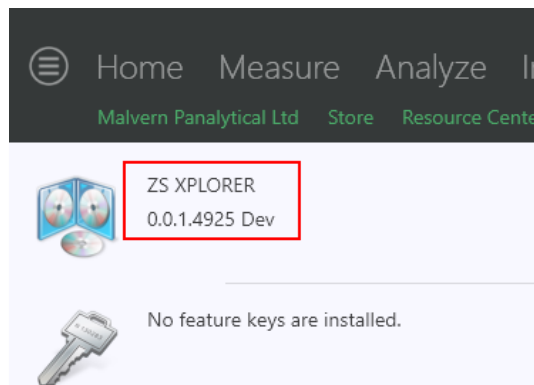

Figure 7: Software Version Number
3. Read version number (*Figure 7*)